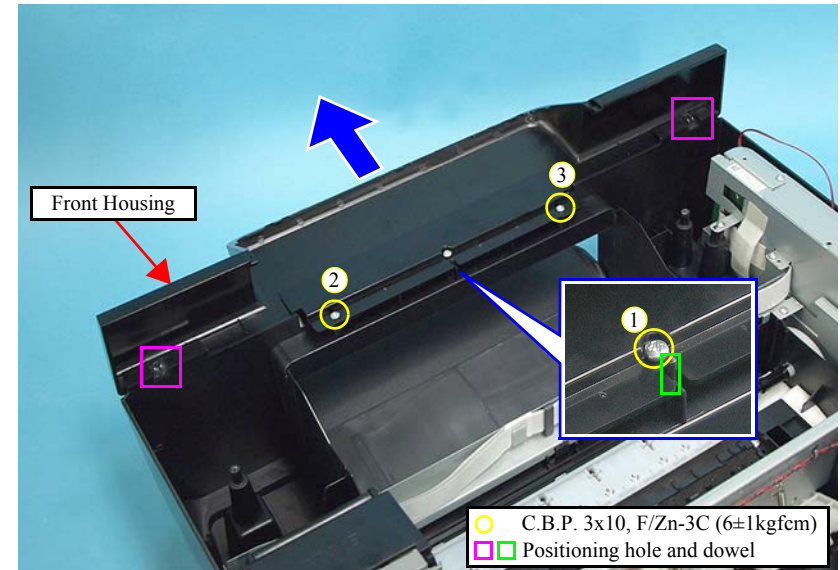

Figure 4-16. Removing the Front Housing
- Tighten the screws in the order given in Figure 4-16.